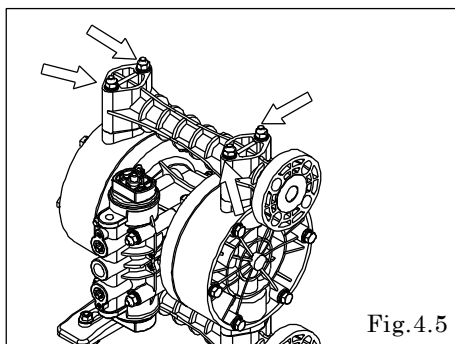

Fig.4.5
- Remove the 4 retainer nuts from the upper side of tie rods, and remove the out manifold. [Fig.4.5]